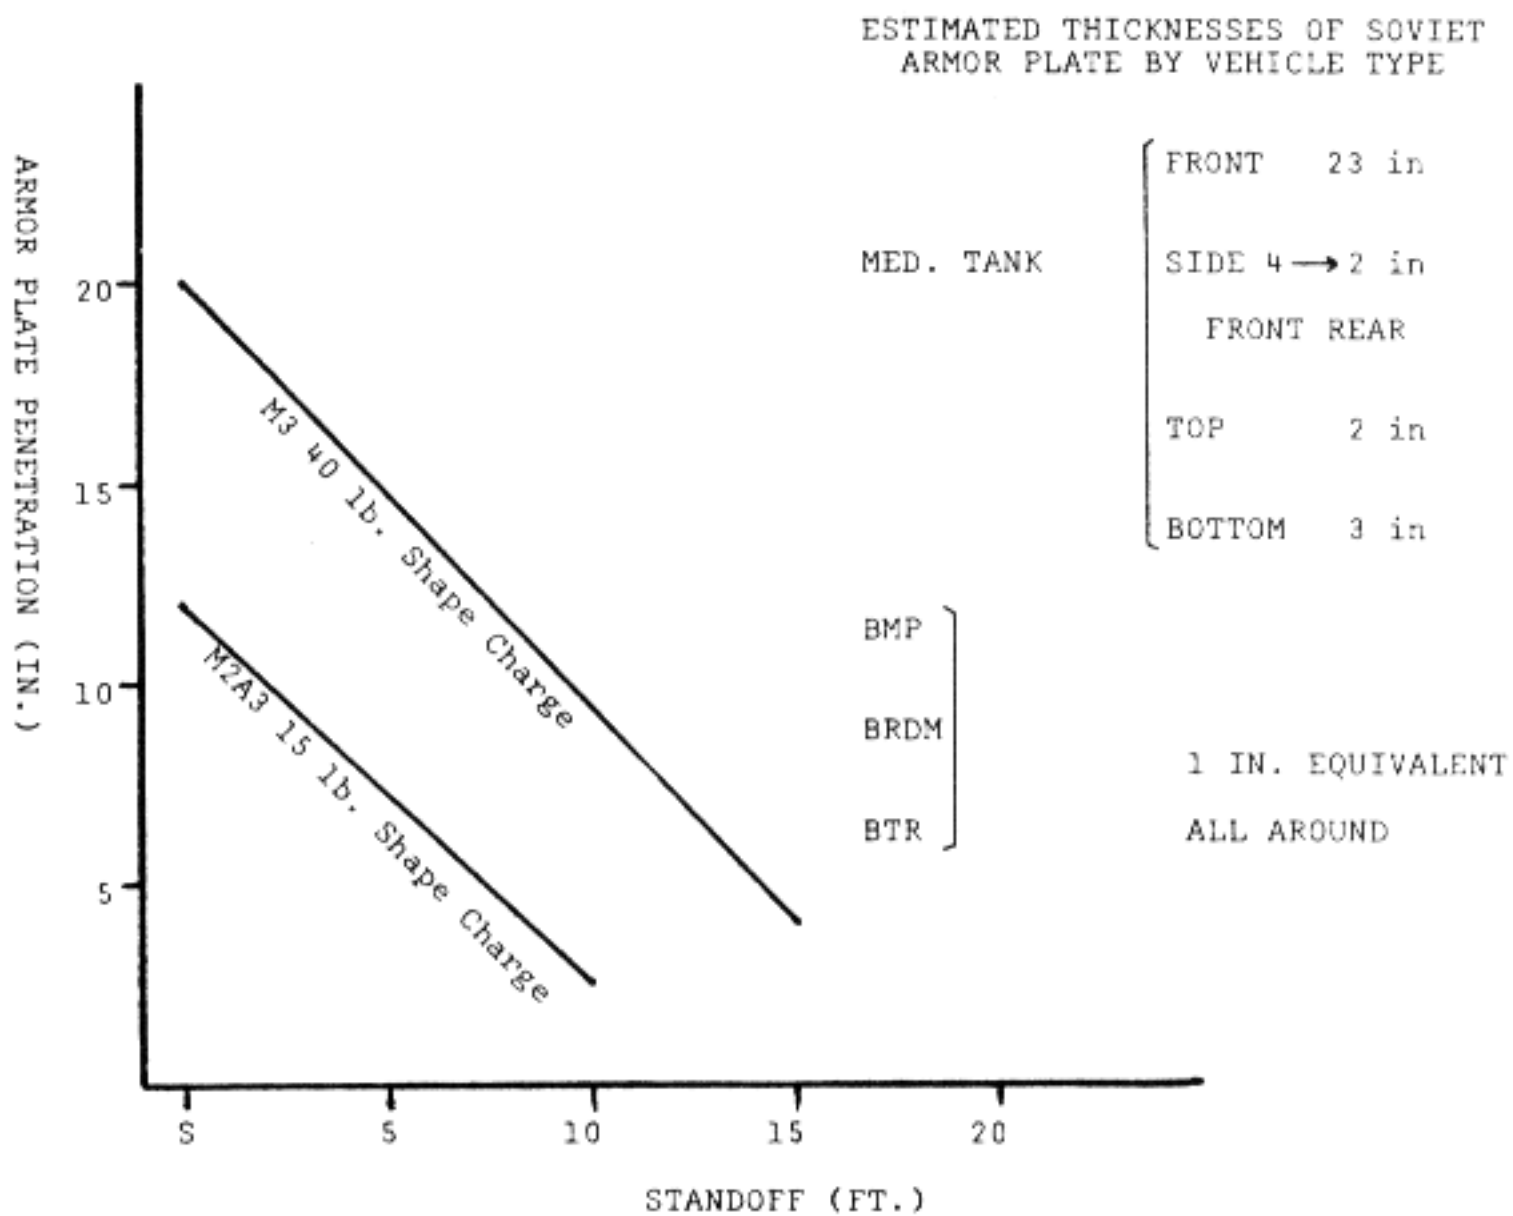
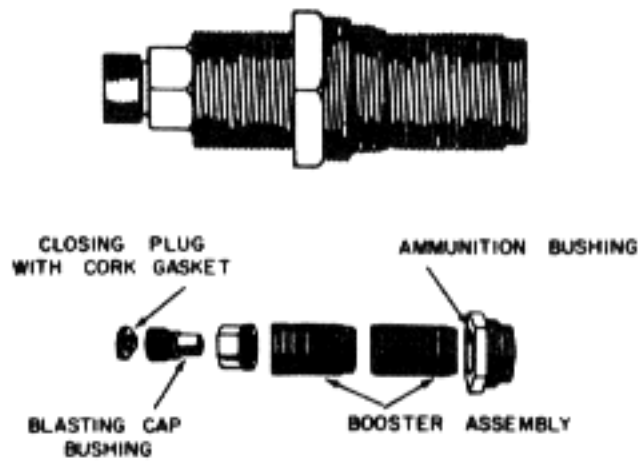

FIGURE 14 CONVENTIONAL SHAPE CHARGE EMPLOYMENT AGAINST ARMORED VEHICLES
Figure 15
b. Construction: Command detonated charges are constructed, using a primer with electric blasting caps. To employ the standard shape charges as a tank killing munition, figure 14 depicts extended standoff distances that the conventional shape charges may be placed from the target and still obtain penetration and spalling. Multiple charges may be placed in series and spaced along a route to inflict extensive damage upon an armored column. When using artillery shells or bombs, they should be primed with an M-10 universal destructor (Fig 15). Bombs and shells should be buried not more than one to two inches under the surface of the roadway which the tank is expected to travel, and detonated by a concealed and protected observer. A 4.2 inch mortar round detonated under the tank's track will cause a mobility kill. Mines may also be command detonated by inserting an electric blasting cap into the secondary fuze well of the M-15 or M-19 AT Blast Mine. The M-21 AT Mine does not have a secondary fuze well. To insure positive detonation a dual firing system should be used.